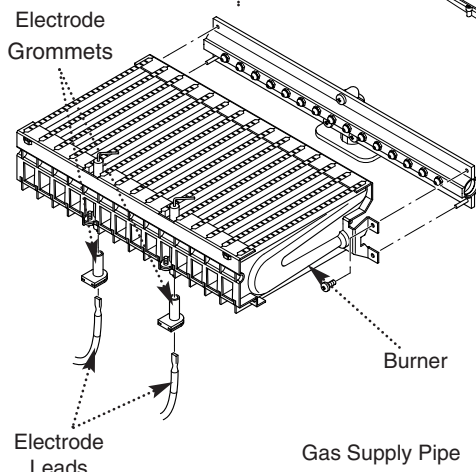

Fig. 47
19. Turn the tap off. Undo the blanking cap and remove the threaded bush (Fig. 47).